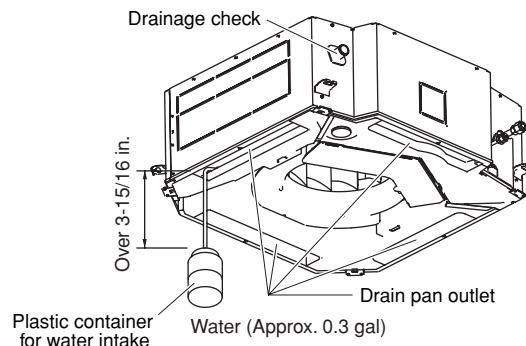

Fig. 3-12
- (1) Connect power to the power terminal board (R, S terminals) inside the electrical component box.
- (2) Slowly pour about 0.3 gal of water into the drain pan to check drainage. (Fig. 3-12)
- (3) Short the check pin (CHK) on the indoor control board and operate the drain pump. Check the water flow through the transparent drain pipe and see if there is any leakage.
- (4) When the check of drainage is complete, open the check pin (CHK) and remount the tube cover.